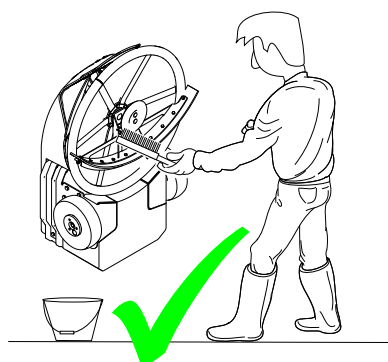

Figure 50. Clean the manure scraper with water and a brush
2. Clean the manure scraper with water and a brush (see figure 50 on page 6-14).